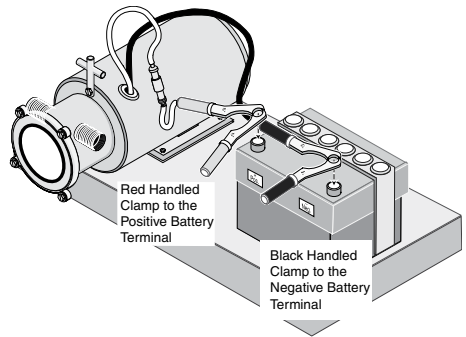

Figure 1 - Wiring Connections.
NOTICE This pump is equipped with a permanent magnet type 12 Volt reversible DC motor. Be sure it is connected properly as illustrated for the direction of flow indicated by the arrows on the pump case (see Figure 1).
6. Connect the motor lead wires as indicated in Table I and as shown in Figure 1. Pump will start immediately when connected to power.